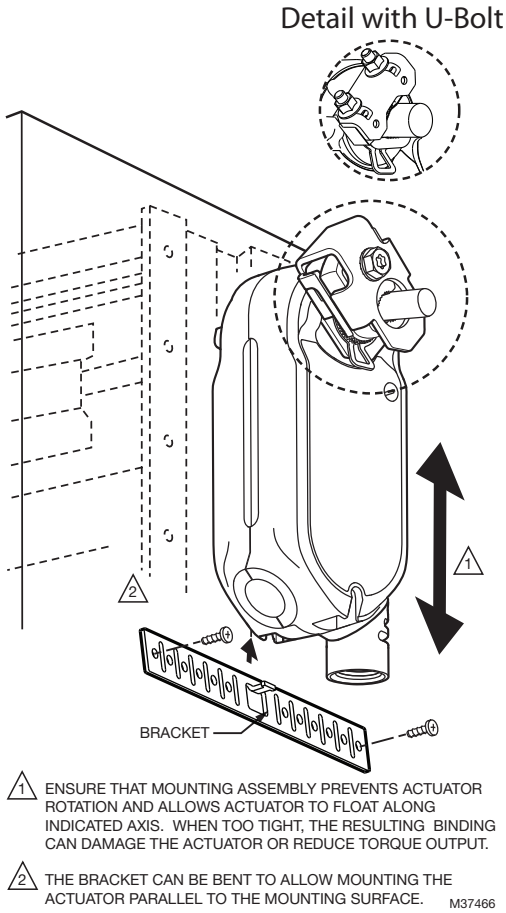

Fig. 10. Mounting actuator to damper housing.
These actuators are designed to mount directly to a damper external drive shaft. The shaft coupling fastens to the drive shaft. The actuator housing includes slots which, along with an anti-rotation bracket, secure the actuator to the damper frame or duct work (see Fig. 10).
1. Place actuator over damper shaft; and hold mounting bracket in place. See Fig. 10.